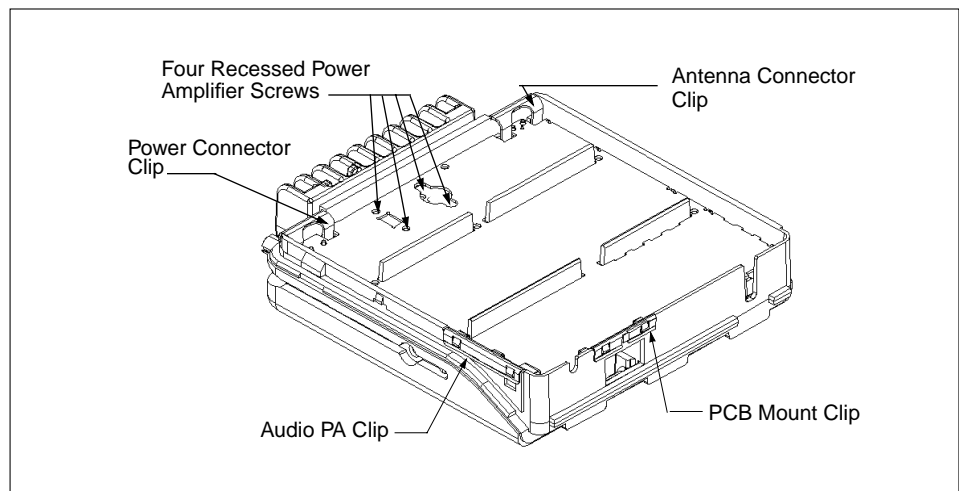

Figure 5-7 Removing the Transceiver Board - Mid Power Models (except 800 MHz and 900 MHz)
4. Remove the four recessed Power Amplifier Device screws using a T-8 Torx Driver (see Figure 5-7).